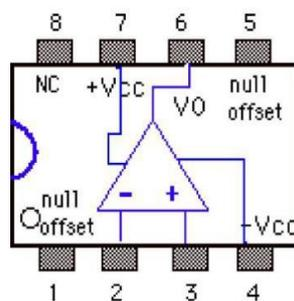

Figure 4: Top view of an op-amp DIP package.
An op-amp comes in a DIP (dual in-line package) as shown in Figure 4. Pins 1 and 5 are used for nulling the offset voltage. We will not use these pins in this lab. Pin 8 is not connected (NC) to the internal circuits of the op-amp. One of the more popular op-amps is the LM741, specs.